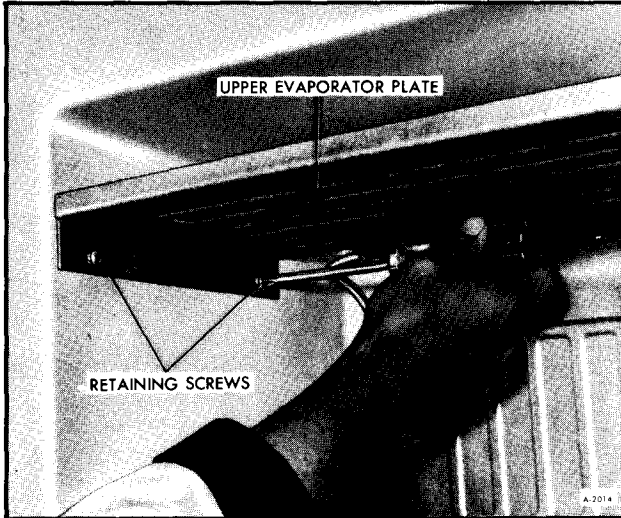

Figure 11—Removing Evaporator Screws
2. Remove eight screws from upper and lower evaporator plates, four screws in each (figure 11).